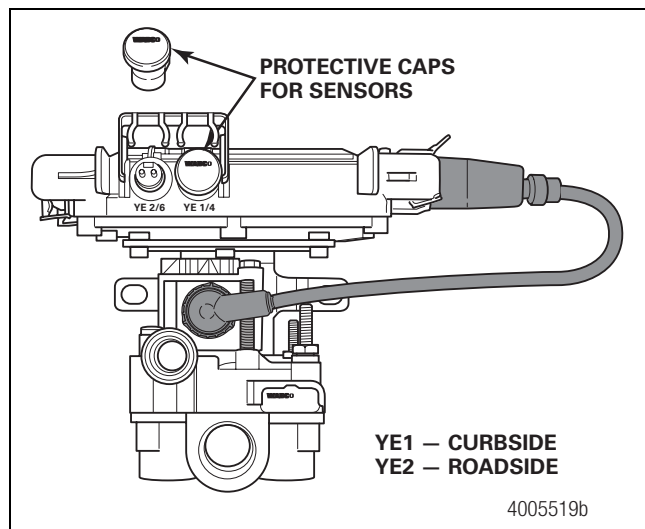

Figure 6
- Remove the protective caps from the YE2 and YE1 sensor connectors. Figure 6.